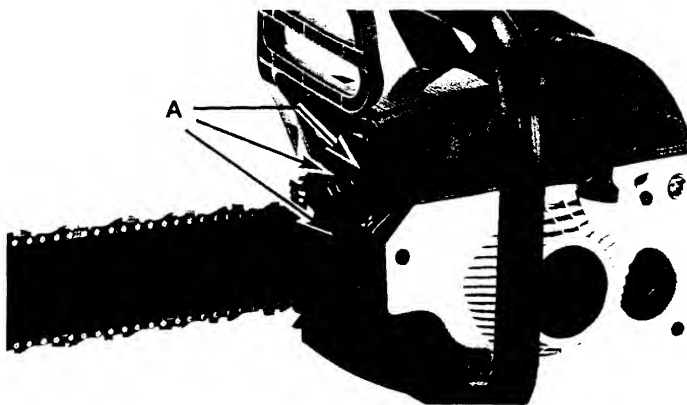

Fig. 28
1. Remove the 3 bolts (A) and pull muffler out. (Fig. 28).